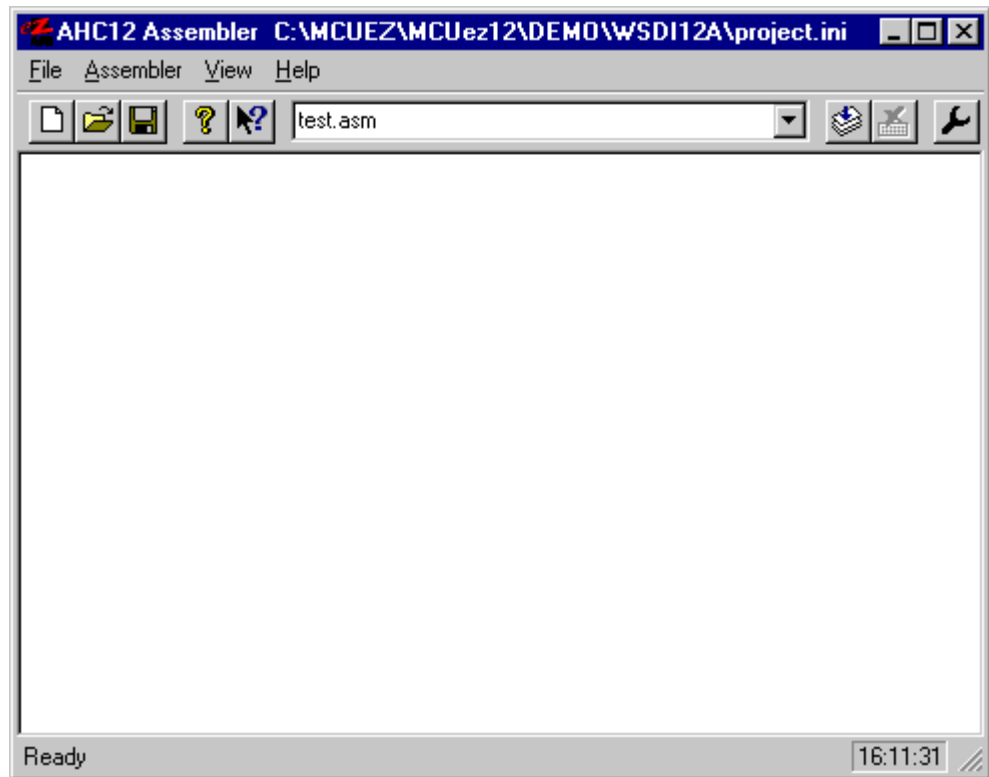

Figure 1-5. Assembler Window
1. Start the assembler by clicking on the **ezASM** button in the **MCUez Shell**. Enter the name of the file to be assembled in the editable combo box, as shown in **Figure 1-5**.